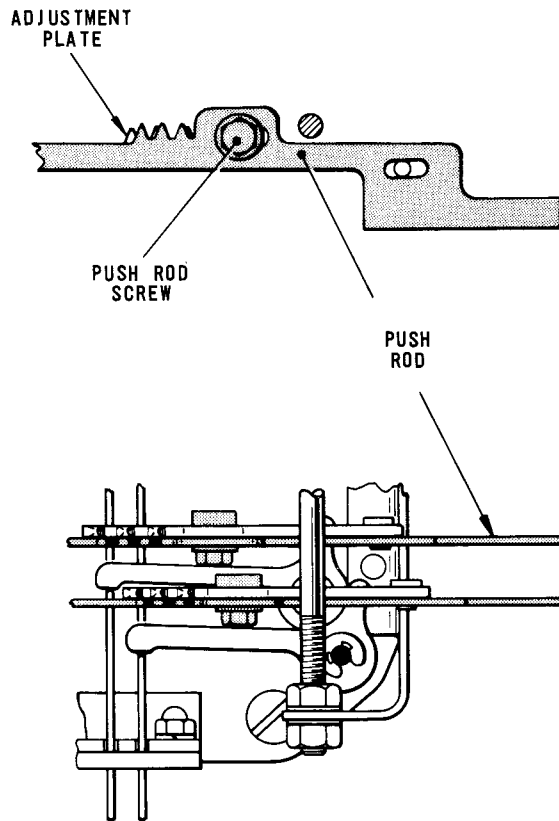

Fig. 4.77 SELECTOR BAR/PUSH ROD LINKAGE
- 93.2 To adjust, slacken the screw securing the appropriate push rod, Fig.4.77, to its adjustment plate and, holding down the respective selector code plate, insert a screwdriver between the adjustment teeth and move the adjustment plate until dimension 'bp' is obtained. Tighten the push rod screw.